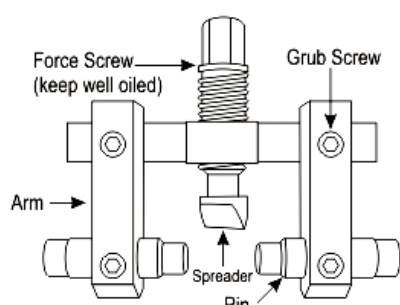

fig.1
3. Set up the spreader as in fig.1